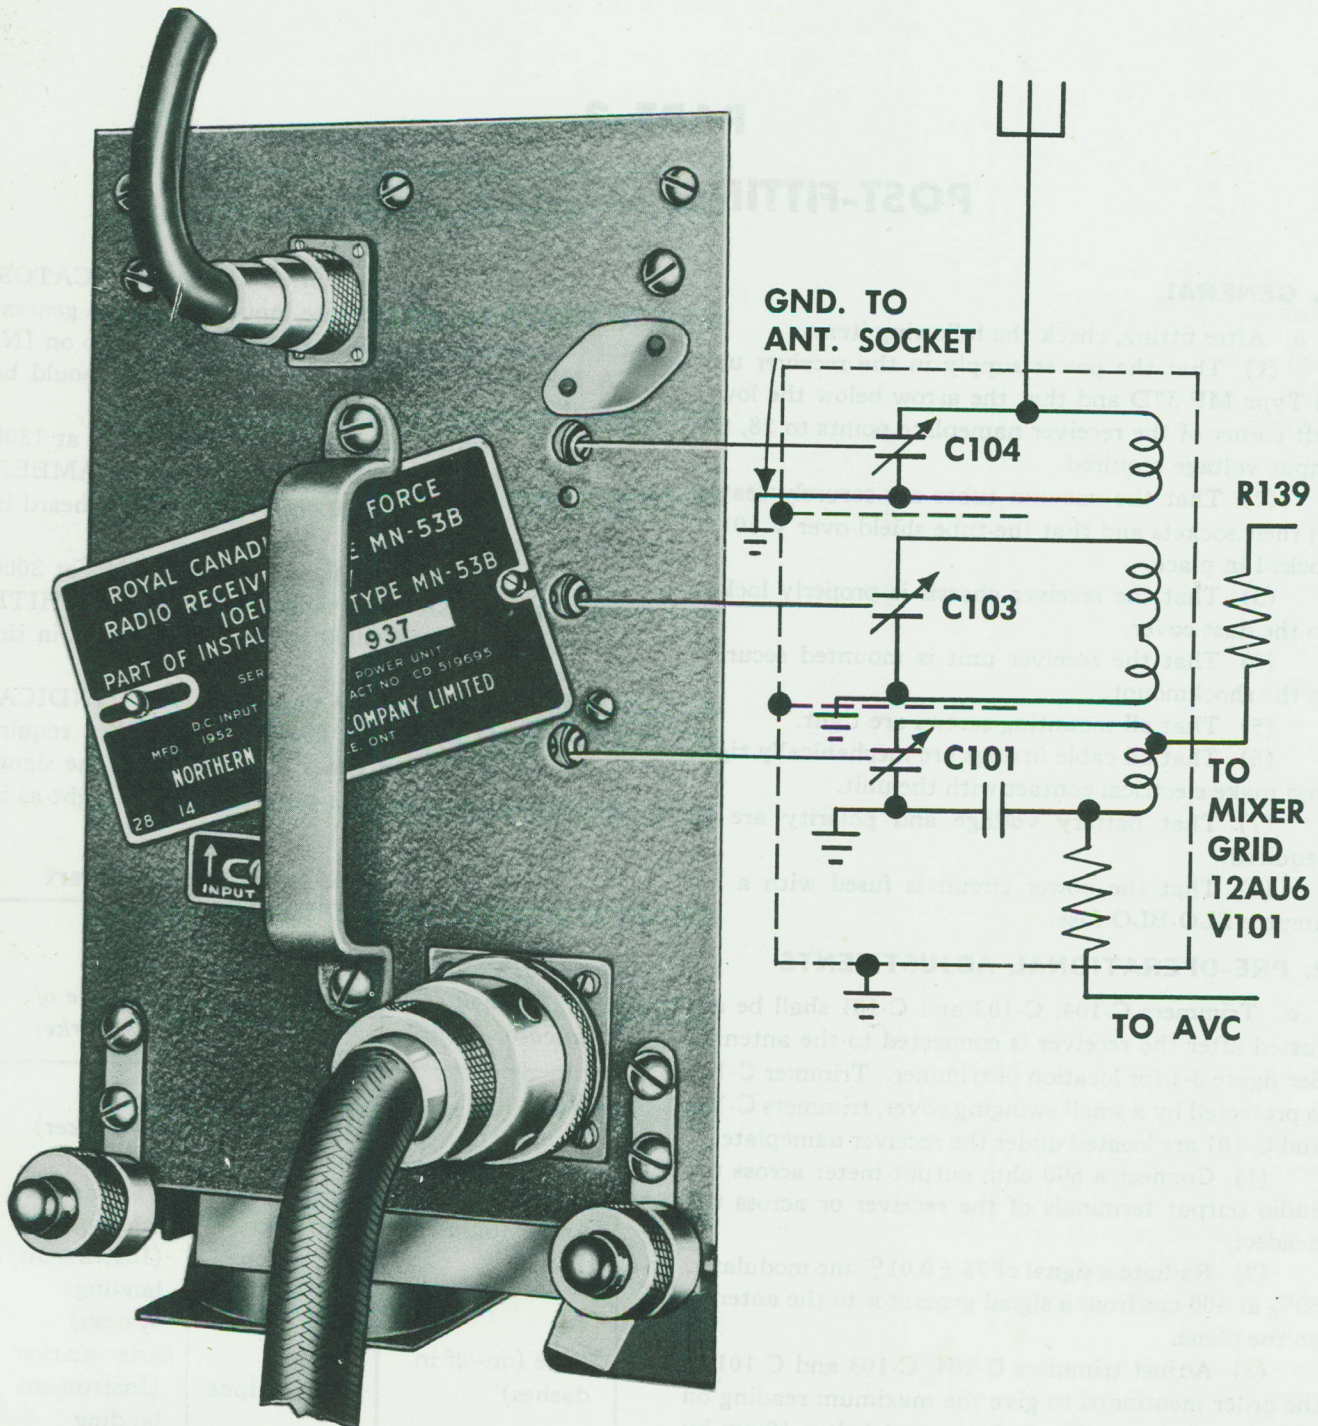

Figure 3-1. R-F Filter Trimmers, Their Front Panel Location and Their Schematic
a. Trimmers C-104, C-103 and C-101 shall be adjusted after the receiver is connected to the antenna. See figure 3-1 for location of trimmer. Trimmer C-104 is protected by a small swinging cover, trimmers C-103 and C-101 are located under the receiver nameplate.
(1) Connect a 600 ohm output meter across the audio output terminals of the receiver or across the headset.
(2) Radiate a signal of $75 \pm 0.01\%$ mc modulated 30% at 400 cps from a signal generator to the antenna on the plane.
(3) Adjust trimmers C-104, C-103 and C-101 in the order mentioned to give the maximum reading on the output meter. Keep the output below 10mw by reducing the input from the signal generator. If a trimmer produces two peaks, disregard the weaker peak.
(4) Repeat operation 3 several times until no further gain in output can be obtained.
(5) Replace the nameplate and close the cover over C-104.